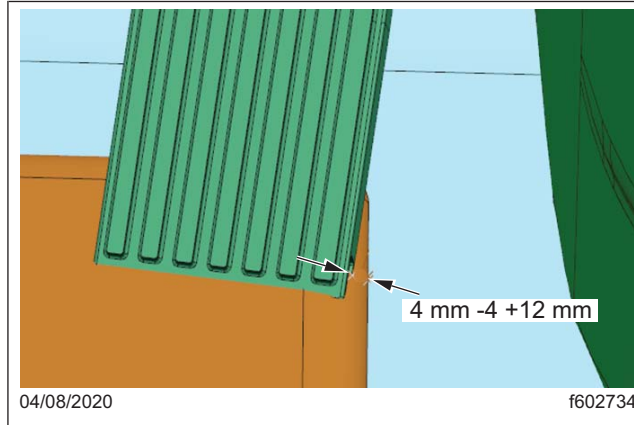

Fig. 2, Distance Between the Right Hand Side of Wear Pad to the Right Hand Side of the Throttle Pedal, LHD Vehicles
- For left hand drive (LHD) vehicles, see Fig. 2 to determine the distance between the right hand side of the wear pad to the right hand side of the throttle pedal.